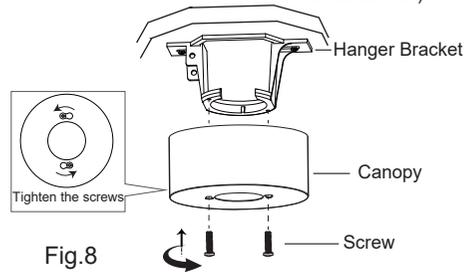

Fig.8
Step 4 Screws removed at canopy lock the bell and hanger.(Fig.8)